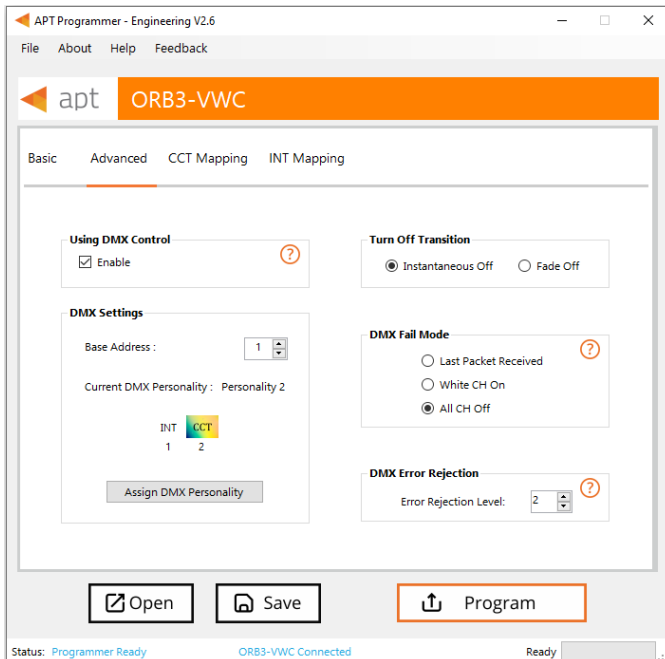

Figure 11: Advanced Tab Window with DMX Control enabled
3. Once enabled, additional DMX settings will be displayed (Figure 11). This step is needed to configure these settings to ensure proper communication between the DMX controller and the ORB3-VWC controller